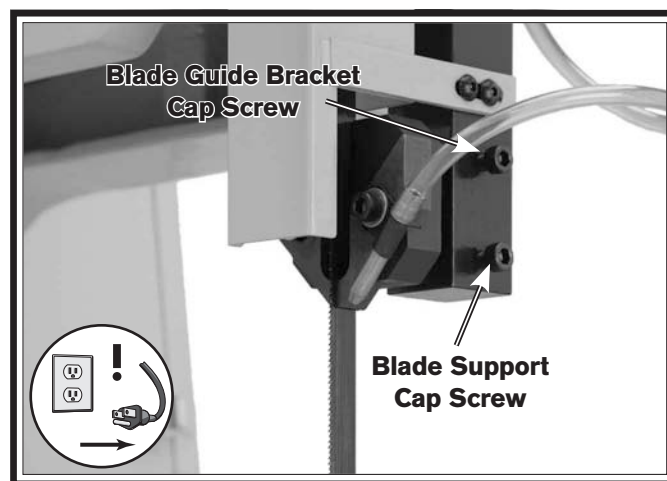

Figure 22. Upper blade guides and bracket.
4. Use a 5mm hex wrench to loosen the cap screws that secure the blade guide bracket and blade support (see **Figures 22–23**).